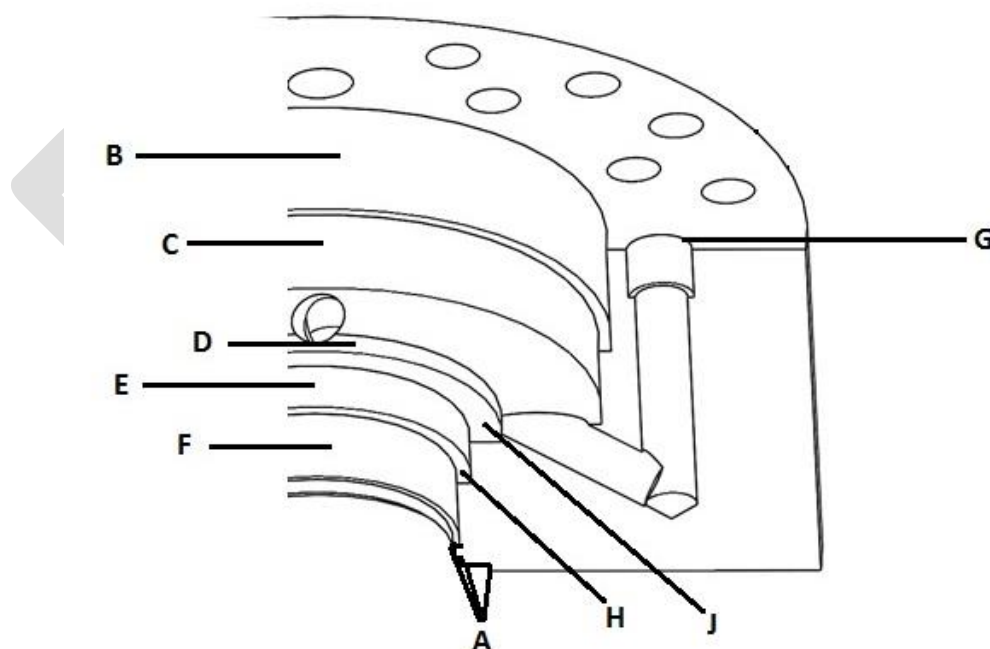

Figure 1
7. Ballistic Actuator End Cap	25-66921 (Fig 1 Zones F and E)
1. Ballistic Actuator End Cap	25-66921 (Fig 1 All Zones including exterior except E and F)